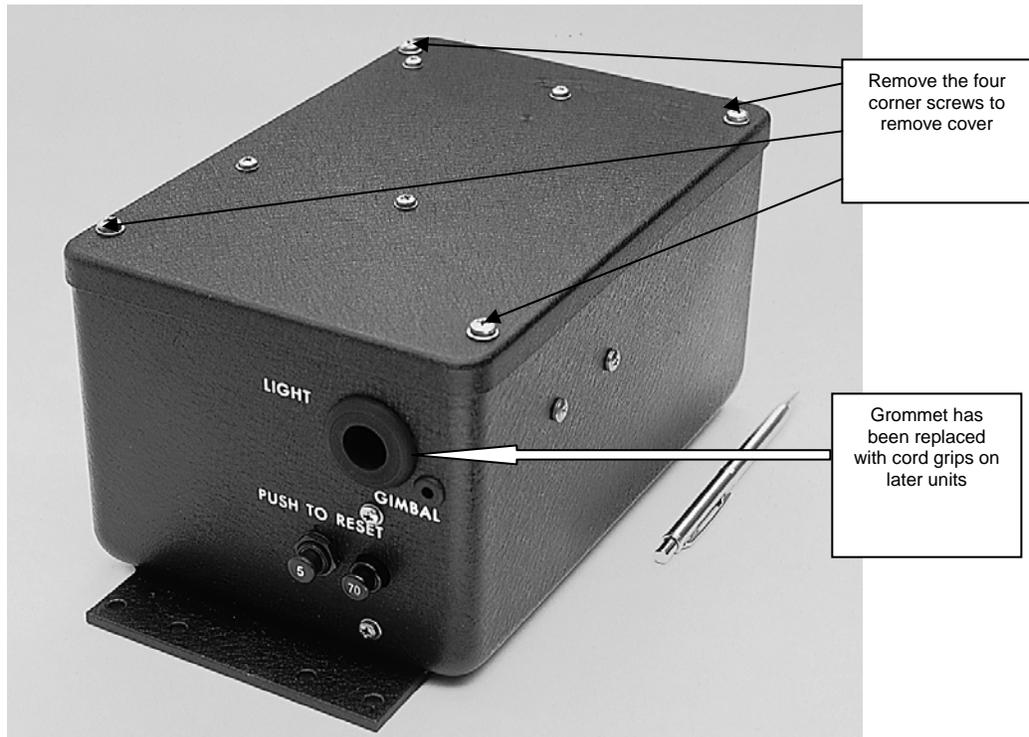

Figure 24 Junction Box (Circuit Breaker Side)
In addition to circuit breakers, the hardwired Junction Box (PN 020706) has three connectors (Figure 24). They include (1) a power connection, (2) a Control Box connector, and (3) a Searchlight/Gimbal connector. Section 3 of this manual describes the connections to the SX-16 Nightsun® components in detail.
- Note that the large grommet in Figure 24 has been replaced with a cord grip on units built after March 1999 with SN 3307 and higher.